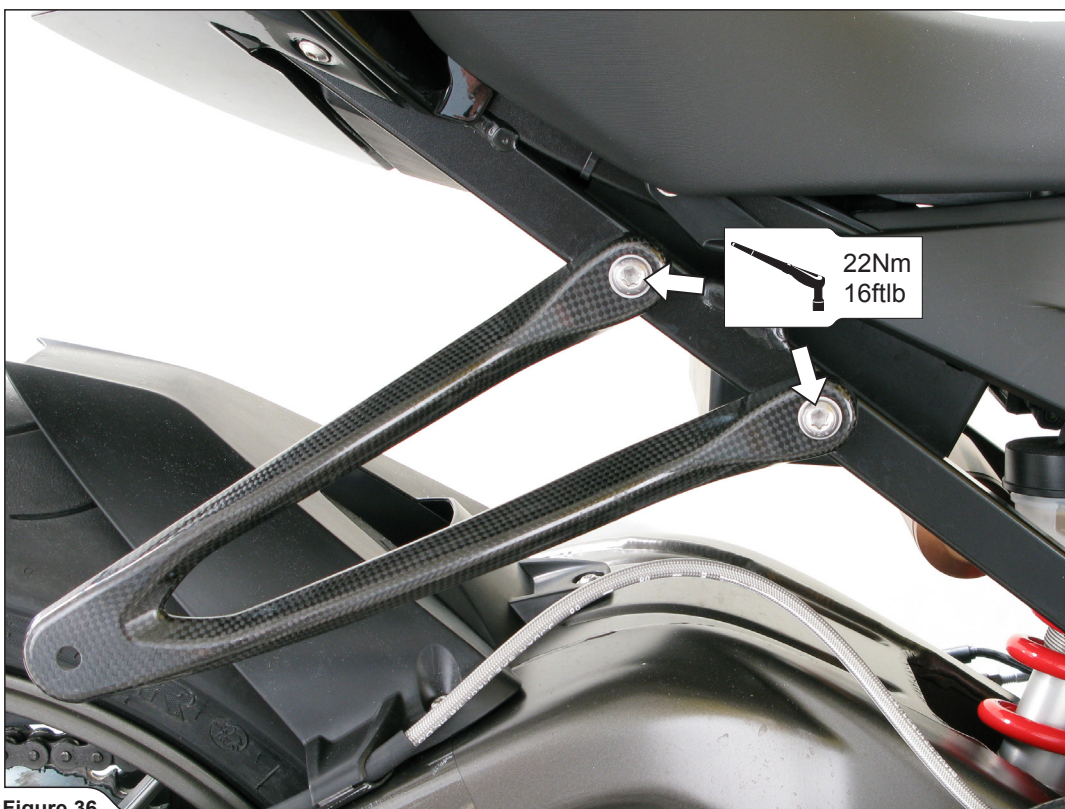

Figure 36
2. Install the Akrapovič carbon fiber muffler's bracket, using stock bolts (Figure 36).